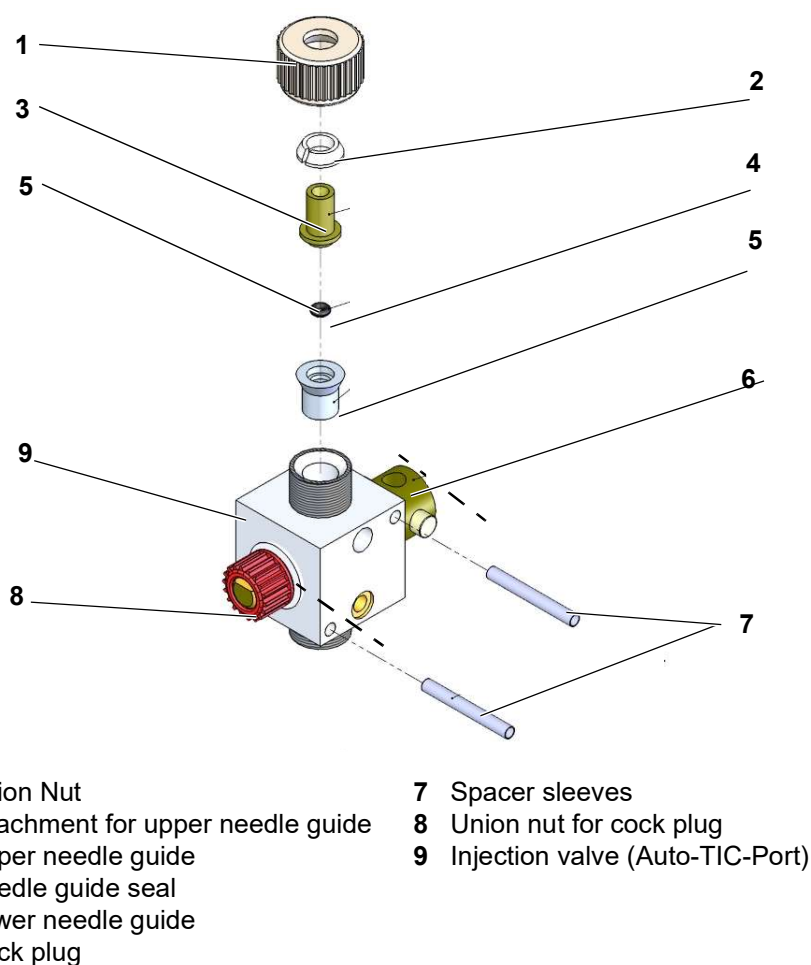

Fig. 154: Injection valve (Auto-TIC-Port)
1. Unscrew the union nut of the Auto-TIC-Port (Fig. 154, page 245).
2. Lift the top part of the needle guide and remove the old needle guide seal (Fig. 154, page 245).
11. Fit the washer in front of the cock plug seal and the union nut (No. 6 and No. 8 in Fig. 154, page 245) when the cock plug is in the injection valve.